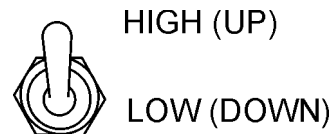

Figure 51. Engine Speed Switch
15. Set the engine speed switch (Figure 51) to low to idle engine, set to high when a load is being applied.